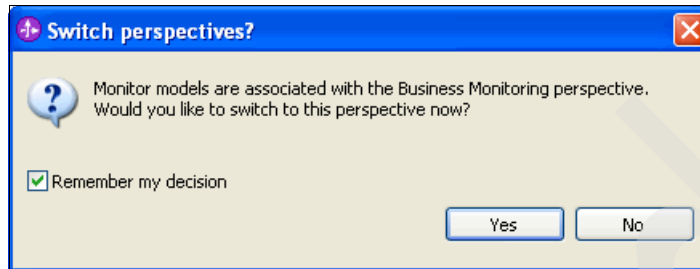

Figure 8-55 Switching to the Business Monitoring perspective
10. In the Switch perspectives message window (Figure 8-55), select **Remember my decision** and click **Yes** to switch to the Business Monitoring perspective.